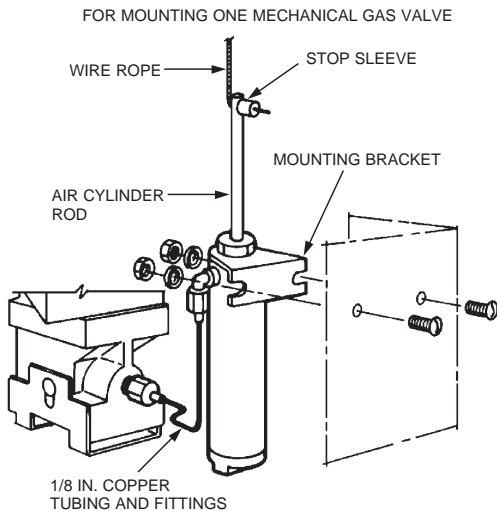

FIGURE 5-43
4. Locate air cylinder and bracket assembly over the two 7/32 in. (5.6 mm) holes on right side of the enclosure. Assemble with screws, lockwashers, and nuts. Wrench tighten. See Figure 5-43. Air cylinder(s) can also be mounted in the inverted position, allowing for direct exit out the knockout(s) in the bottom of the enclosure. See Figure 5-44.
6. Install the necessary 1/8 in. copper tubing and fittings for each air cylinder to the accessories piping arrangement on the regulated release mechanism. See Figures 5-43 and 5-45.
9. Beginning at the regulated release assembly, thread the end of the wire rope through hole provided in air cylinder rod. See Figure 5-43.
12. With the end of wire rope already threaded through hole in air cylinder rod, slide stop sleeve (Part No. 26317) onto wire rope and leave loose. Do not crimp stop sleeve at this time. See Figure 5-43.
14. Raise air cylinder rod "UP" to its maximum extended position. See Figure 5-43.
16. Slide stop sleeve against air cylinder rod, make certain all slack is removed from wire, and crimp stop sleeve. See Figure 5-43.